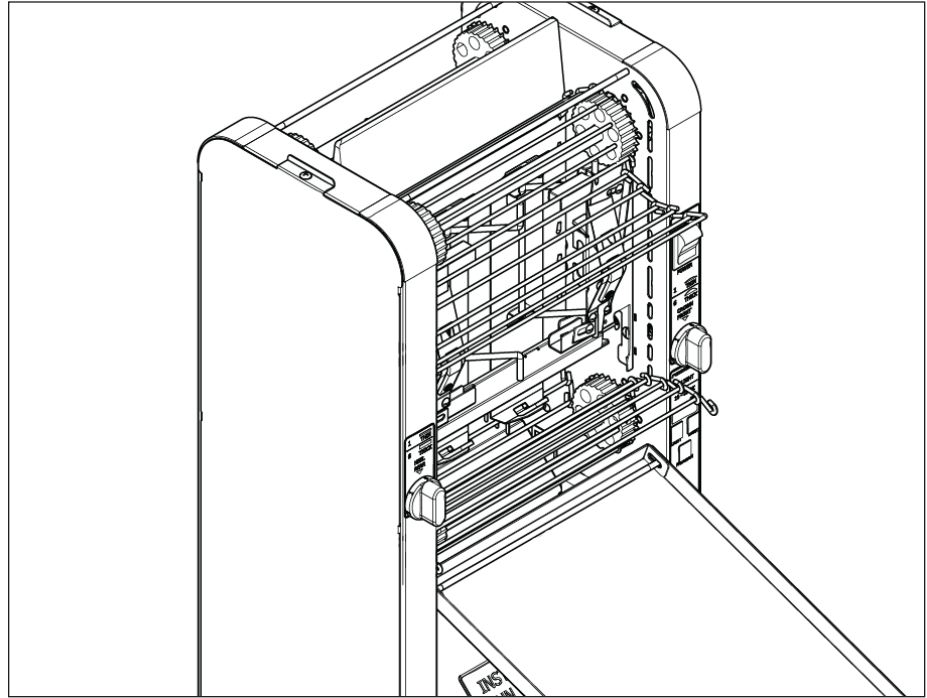

Figure 20. Disconnect Conveyor Belt Chains
6. Disconnect the Conveyor Belt chains by squeezing any two links together and unhooking both ends of the one link (Figure 20). Pliers may be used. Remove the Conveyor Belt Chains and set aside.
**NOTE:** Make sure the Conveyor Belt Chain hooks are pointing **DOWN** as shown in Figure 20.